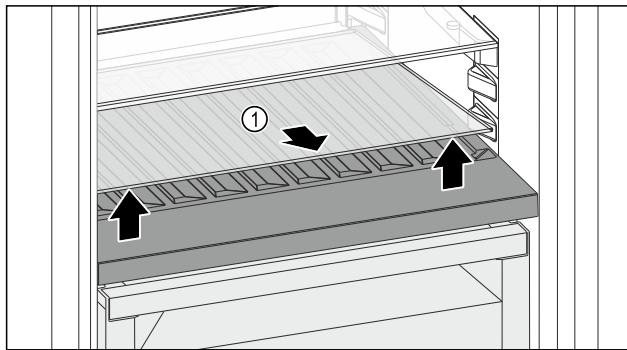

Fig. 118
- ▶ Lift the glass shelf Fig. 118 (1) at the front and remove.
- ▶ Store the glass shelf Fig. 118 (1) in a safe place outside the appliance.